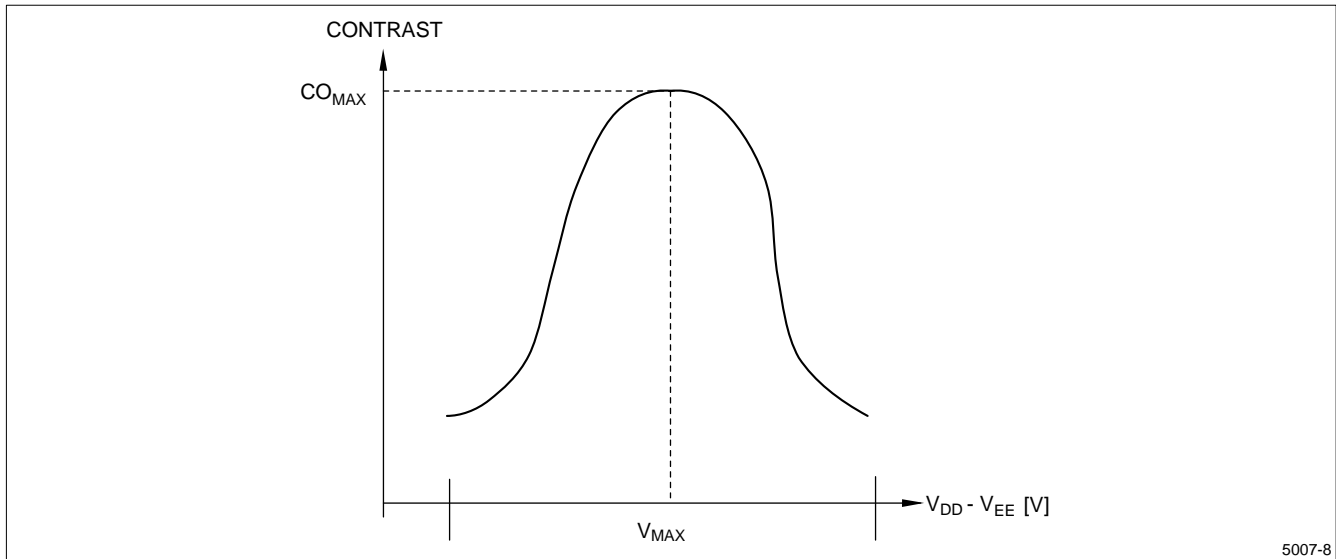

Figure 9. Definition of V_{MAX}
V_{MAX} is defined in Figure 9.
- LCD: All digits WHITE, $V_{DD} = 5 \text{ V}$, $V_{DD} - V_{EE} = V_{MAX}$, $DU_0 - DU_3$ (refer to Figure 9), $DL_0 - DL_3 = 'H'$ (WHITE)